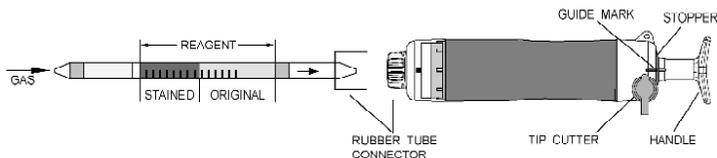

Fig.1
- ① Break both ends of detector tube.
- ② Insert the detector tube into aspirating pump securely as shown in Fig.1. (Arrow mark shall point to the pump.)
- ③ Align the guide marks on the handle and stopper of the aspirating pump.
- ④ Pull the pump handle at full stroke locked position and wait for 1.5 minutes or until the completion of sampling is confirmed with the flow indicator of the pump (See descriptions about the flow indicator in the instructions manual of pump).
- ⑤ On completion of sampling, read the scale at the maximum point of the stained layer.